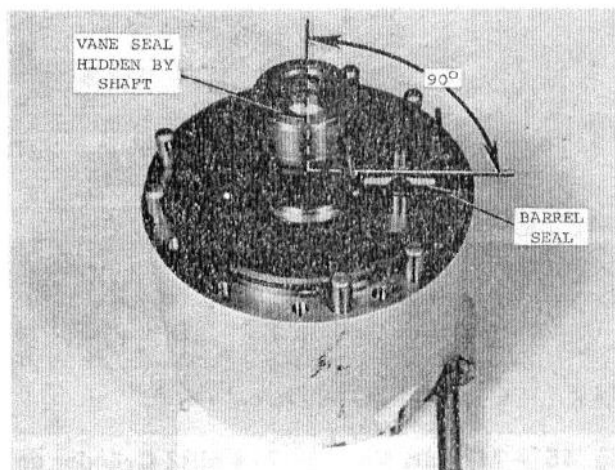

Fig. 51 — Moving Vane Positioned 90° to Barrel Vane
11. Continue to push the vane shaft (with seals in its slot) downward into the barrel until it is in its assembled position. Rotate the shaft until the vane is positioned approximately 90° from the center-line of the barrel vane (when barrel vane is installed) ... see Figs. 51 and 52.